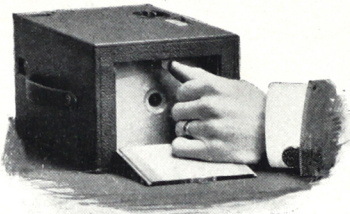
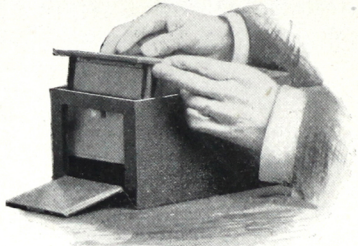

FIG. 1.
FIG. 2.
I. Take a position at a table as far as possible from any window ; open the door in back of camera and press to the left on brass ear as shown in Fig. 1. Now lift the roll holder from box as shown in Fig. 2.